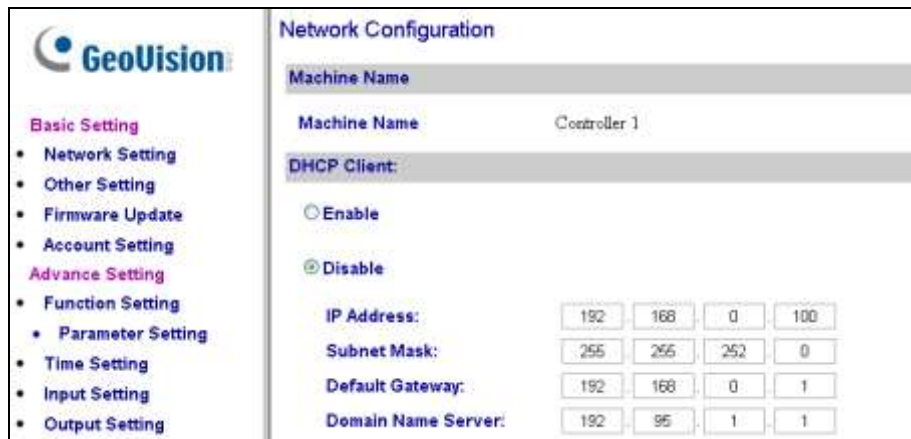

Figure 19-2
5. Open the browser and enter the assigned IP address of the controller. The Network Configuration page appears. See Figure 19-2.